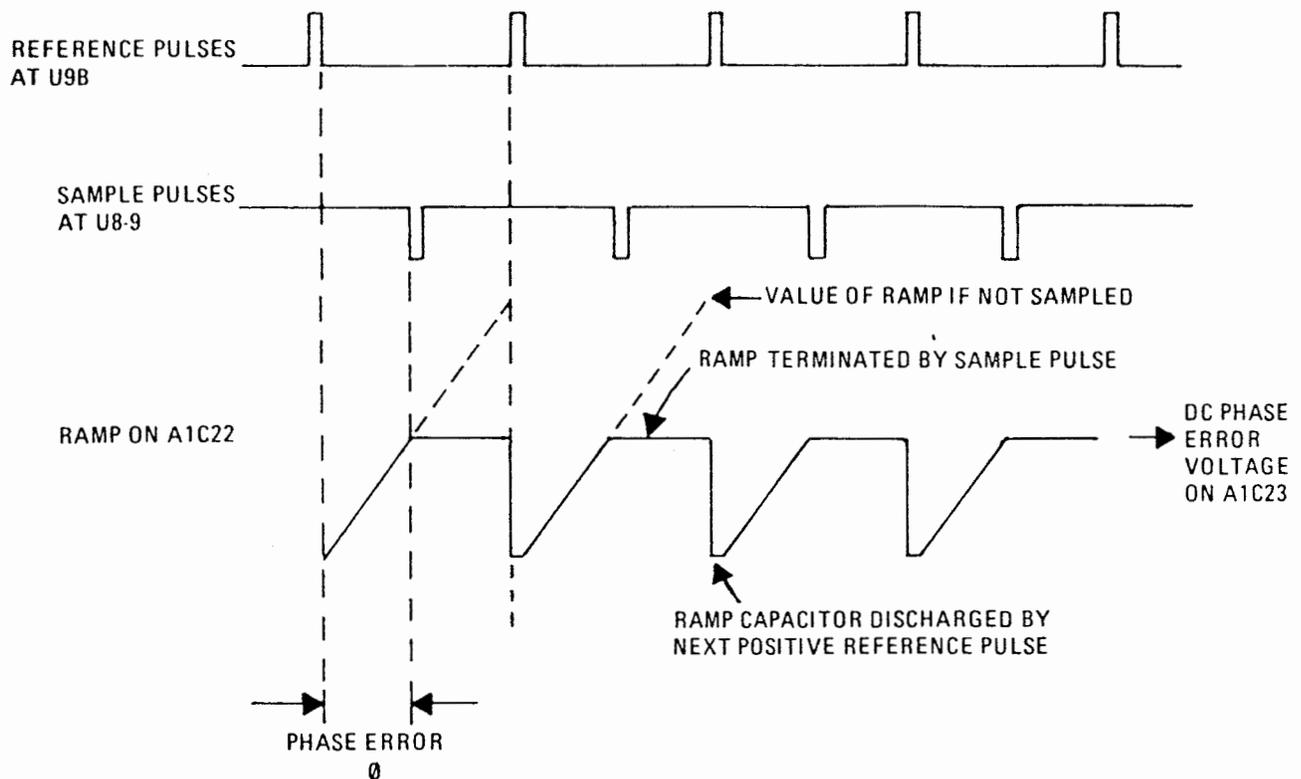

Figure 1. Phase Detector Operation
The sample and hold phase detector is composed of ramp generator Q2-R12-C22, sampling FET Q4 and hold capacitor C23. NAND gates U9C, U9D form a one-shot which provides a very narrow reference pulse at the rate of 100kHz. This reference pulse sets U10A-5, causing switch Q1 to conduct, charging C22 through Q2 and R12. The ramp at C22 is terminated by a sample pulse from the $\div N$ output at U8-9, clearing flip-flop U10. This also momentarily cuts off switch Q5 which turns on sampling FET Q4. When Q4 is on, the voltage on C23 will increase or decrease to attain equilibrium with ramp capacitor C22. See Figure 1.
If the loop is locked, both reference and sample pulses to the phase detector will be at a 100kHz rate, and should occur in an alternating sequence as shown in Figures 1 and 2. The time difference between the pulses represents the phase error voltage from the phase detector output.
Adjustment of the High Band PLL Module A2A8 will be required if the VCO does not lock frequency within one-half second from resetting one of the first three digit switches on the front panel, or if the module jumps in and out of lock. By viewing and measuring output at A2TP2 on RF PWB A2A8A2, a Dc voltage (which will decrease in incremental steps from approximately 13Vdc at 299 switch setting, to approximately 1.5Vdc at 000 setting) can be noted in a properly adjusted module. Lock is also indicated by a steady frequency at the module output, and ramps at A1TP1 which truncate at the same dc level, as shown in Figure 1.
- d. Set oscilloscope for horizontal sweep of 10us per division and calibrated to read 1 Volt per division vertical. Connect the oscilloscope to A2A8A1TP1. Adjust A2A8A2R1 until the ramp amplitude equals 2.5 Volts peak-to-peak and all ramps truncate at the same level as shown in Figure 1.